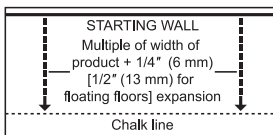

Figure 5
- In at least two places, at least 18" (46 cm) from the corner, measure out equal distance from the starting wall (Figure 5) and snap a chalk line. The measurement must be the sum of the width of the flooring plus an additional 3/8" (9.5 mm) to allow for 1/4" (6 mm) expansion space and the width of the tongue. Allow 1/2" (13 mm) expansion when installing floating floors.